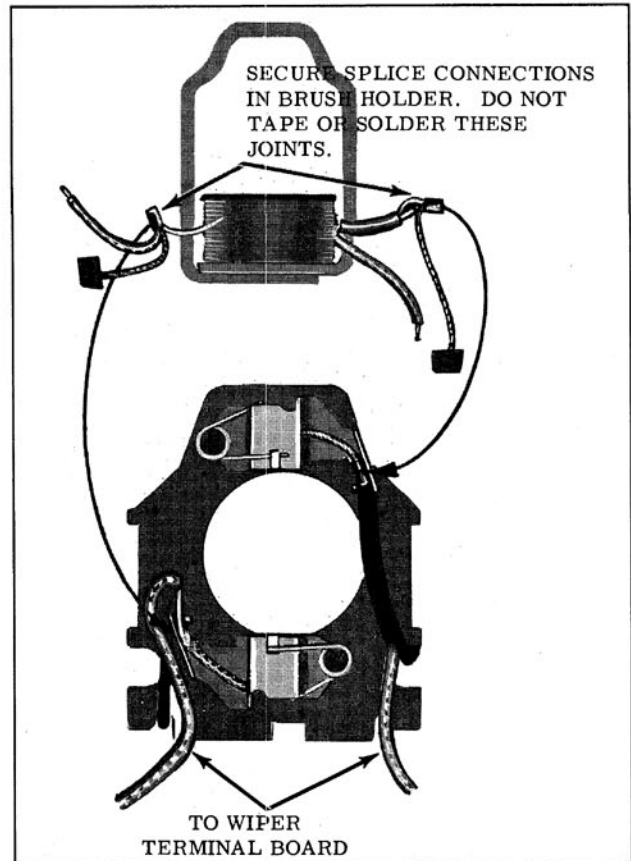

Fig. 13-132 Splice Connections
- d. Poor solder joints at brush pigtail connections. (Fig. 13-132)